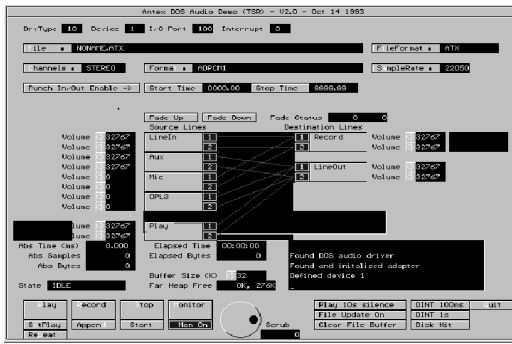

Figure 6. DOS Demo Environment
5. At this point there should be a short pause as the board initializes, then the demo environment should appear (Fig. 6)